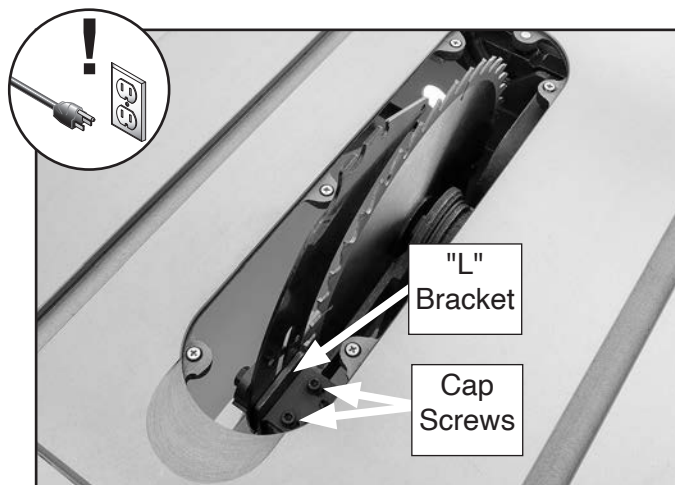

Figure 115. Cap screws for adjusting spreader/ripping knife position.
The spreader/riving knife mounting position can be aligned with the blade using the cap screws on the spreader/riving knife "L" bracket (see **Figure 115**).
3. Loosen two cap screws on "L" bracket (see **Figure 115**), then slide spreader/ripping knife as needed to move it into alignment with blade.